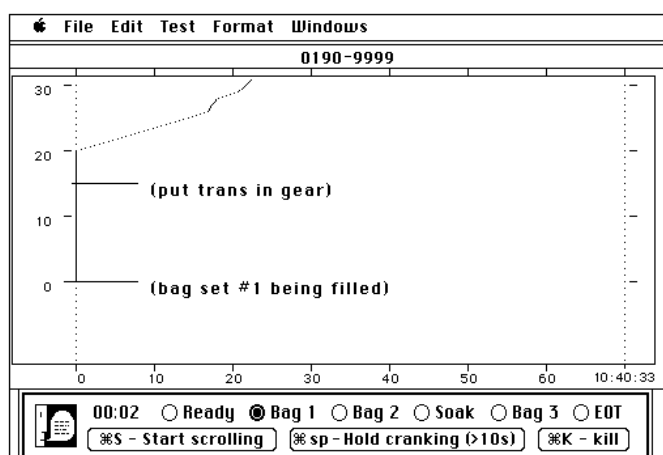

Figure 9
- 310 If the engine starts and continues to run, start the VDA trace scrolling by pressing <Command-S>, following the instructions at the bottom of the screen. See Figure 9.